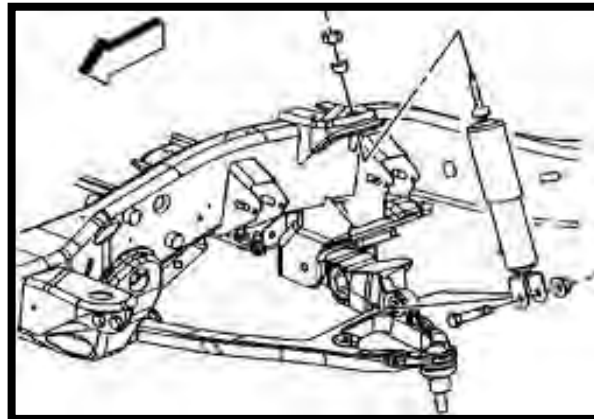

FIGURE 10-3
- 4.0 Remove the shock absorber mounting bolts at the lower control arm. Remove the shock absorber through the lower control arm from below. (FIGURE 10-3)